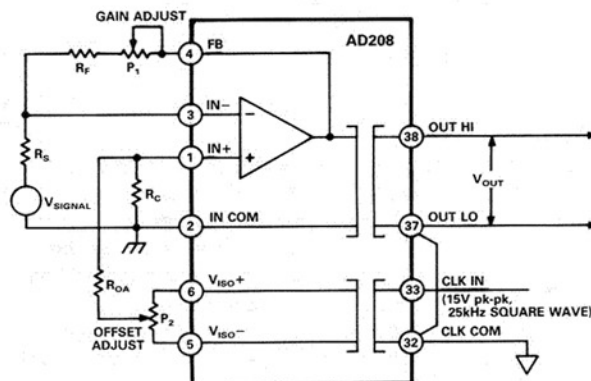

Figure 35. Input Adjustments for the Inverting Mode of Operation
**Offset Adjustment.** Figure 35 shows the suggested input adjustment connections when the isolator's input amplifier is configured for the inverting mode of operation. Here the offset adjustment potentiometer  $P_2$  nulls the voltage at the summing node. This method may be preferred over current injection since it is less affected by any subsequent gain adjustments. A  $100\text{ k}\Omega$   $P_2$ ,  $50\text{ k}\Omega$   $R_{OA}$  and a  $100\ \Omega$   $R_C$  should provide an offset adjustment range (Referred to Input) of about  $\pm 15\text{ mV}$ .
**Gain Adjustment.** Figure 35 also shows the suggested gain adjustment circuit. In this circuit, the gain adjustment is made in the feedback loop using potentiometer  $P_1$ . The adjustments will be effective for all gains in the 1 to 1,000 V/V range.